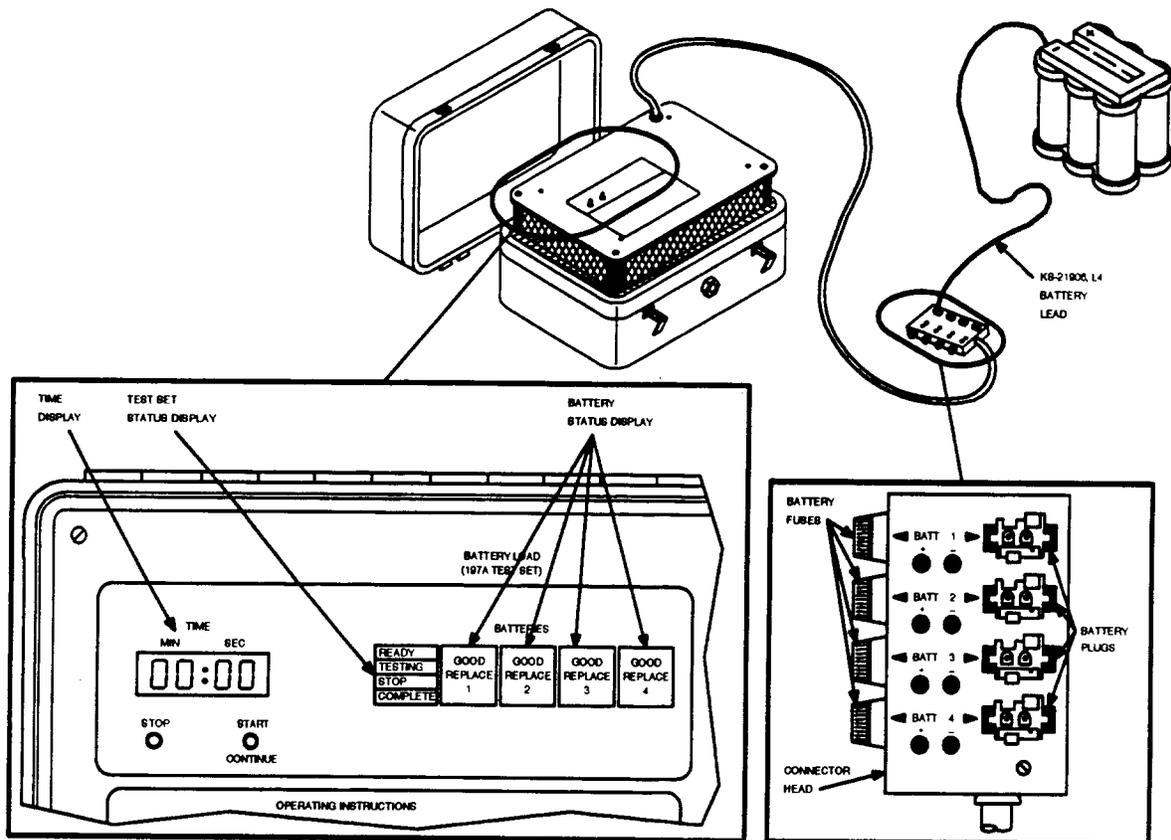

Figure 1 — 197A Battery Load Test Set Arrangement
1. Obtain 197A BATTERY LOAD TEST SET (Figure 1).